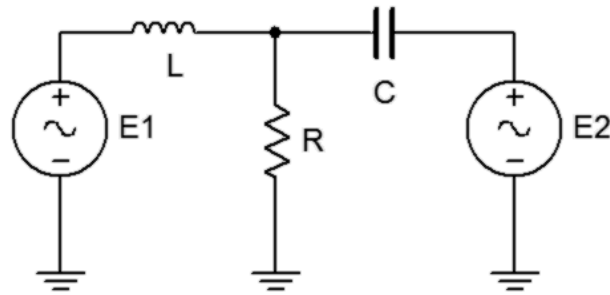

Figure 10.1
1. Typical function generators have a $50\ \Omega$ internal impedance. These are not shown in the circuit of Figure 10.1. To test the superposition theorem, sources $E1$ and $E2$ will be examined separately and then together.
2. Consider the circuit of Figure 10.1 with $C=100\ \text{nF}$, $L=10\ \text{mH}$, $R=1\ \text{k}\Omega$, using only source $E1=2\ \text{V p-p}$ at $1\ \text{kHz}$ and with source $E2$ replaced by its internal impedance of $50\ \Omega$. Using standard series-parallel techniques, calculate the voltages across $E1$, R , and $E2$. Remember to include the $50\ \Omega$ internal impedances in the calculations. Record the results in Table 10.1.
3. Build the circuit of Figure 10.1 using $C=100\ \text{nF}$, $L=10\ \text{mH}$, and $R=1\ \text{k}\Omega$. Replace $E2$ with a $50\ \Omega$ resistor to represent its internal impedance. Set $E1$ to $2\ \text{V p-p}$ at $1\ \text{kHz}$, unloaded. Make sure that the *Bandwidth Limit* of the oscilloscope is engaged for both channels. This will reduce the signal noise and make for more accurate readings. Place probe one across $E1$ and probe two across R . Measure the voltages across $E1$ and R , and record in Table 10.1. Record a copy of the scope image. Move probe two across $E2$ (the $50\ \Omega$), measure and record this voltage in Table 10.1.
4. Consider the circuit of Figure 10.1 using only source $E2=2\ \text{V p-p}$ at $10\ \text{kHz}$ and with source $E1$ replaced by its internal impedance of $50\ \Omega$. Using standard series-parallel techniques, calculate the
6. Consider the circuit of Figure 10.1 using both sources, $E1=2\ \text{V p-p}$ at 1 kHz and $E2=2\ \text{V p-p}$ at 10 kHz. Add the calculated voltages across $E1$, R , and $E2$ from Tables 10.1 and 10.2. Record the results in Table 10.3. Make a note of the expected maxima and minima of these waves and sketch how the combination should appear on the scope
8. Build the circuit of Figure 10.1 in a simulator. Using Transient Analysis, determine the voltage across the resistor and compare it to the theoretical and measured values recorded in Table 10.3. Be sure to include the $50\ \Omega$ source resistances in the simulation.